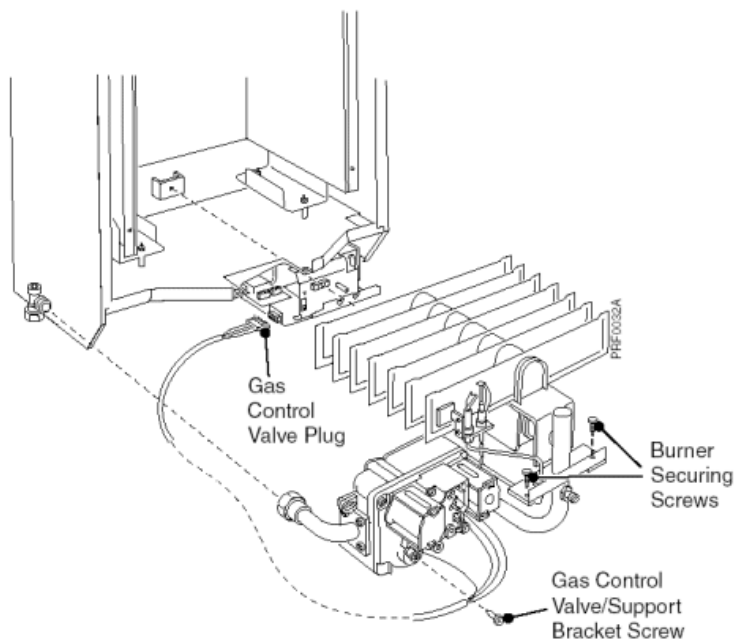

Fig. 29
J. Unplug the electrical supply leads for the gas control valve from the control box. See Fig. 29.
K. Remove the screw securing the gas control valve to its support bracket. See Fig. 29.